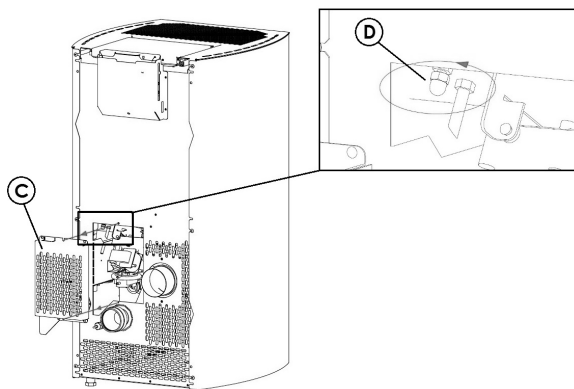

Fig. 75 - Casing removal
- Remove inspection casing "C" from the back of the stove (see **Fig. 75**).